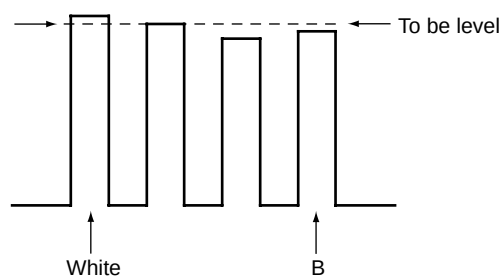

Fig. 3-8
- Adjust the SUB CHROMA so that the TP503 (B IN) white level and the B level will be the same. (Fig. 3-8)